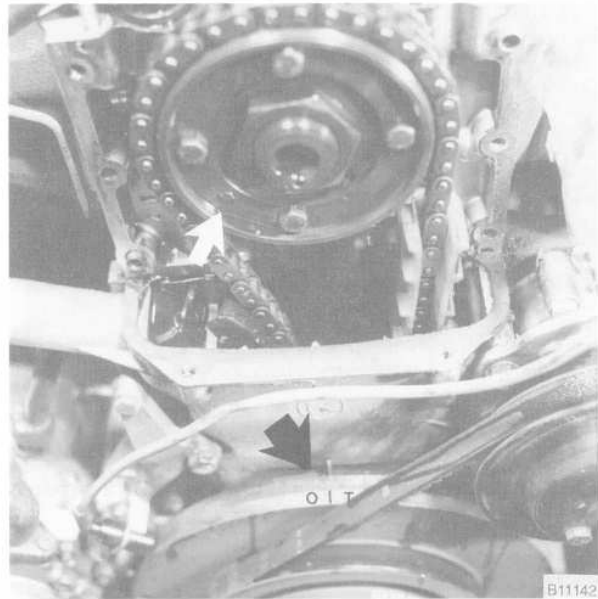

Fig. 25. 0/T (top dead center) mark on vibration damper aligned with mark on timing chain cover (arrow). Note position of sprocket locating dowel.
At TDC, the 0/T mark on the vibration damper will be aligned with the cast boss on the lower timing chain cover and the camshaft sprockets bolts will be straight up and down with the locating dowel in the lower left corner of the sprocket. See Fig. 25.
2. Install a new crankshaft oil seal in the lower timing chain cover and apply a light coat of engine oil to the seal. Temporarily install the lower cover. Temporarily install the crankshaft woodruff key together with the crankshaft hub/vibration damper. Check that both the camshaft and the crankshaft are set at Top Dead Center (TDC) as shown earlier in Fig. 25.